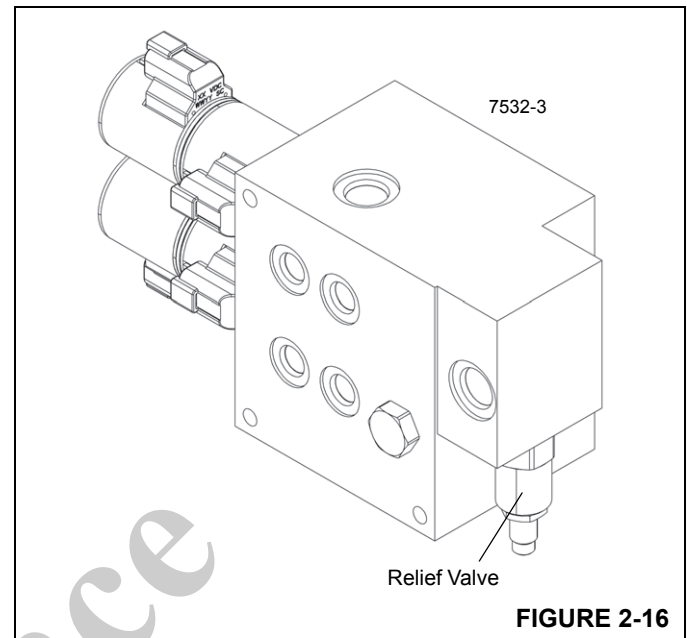

FIGURE 2-16
2. With engine at full rpm, retract counterweight cylinder and set relief valve on counterweight valve Figure 2-16 to 1750 psi \pm 50 (12.1 MPa \pm .4); turn in to raise or out to lower pressure.